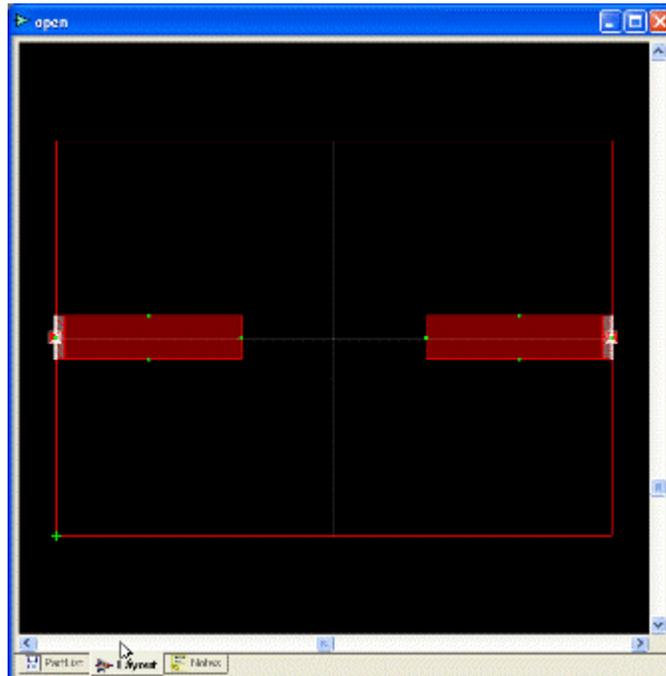
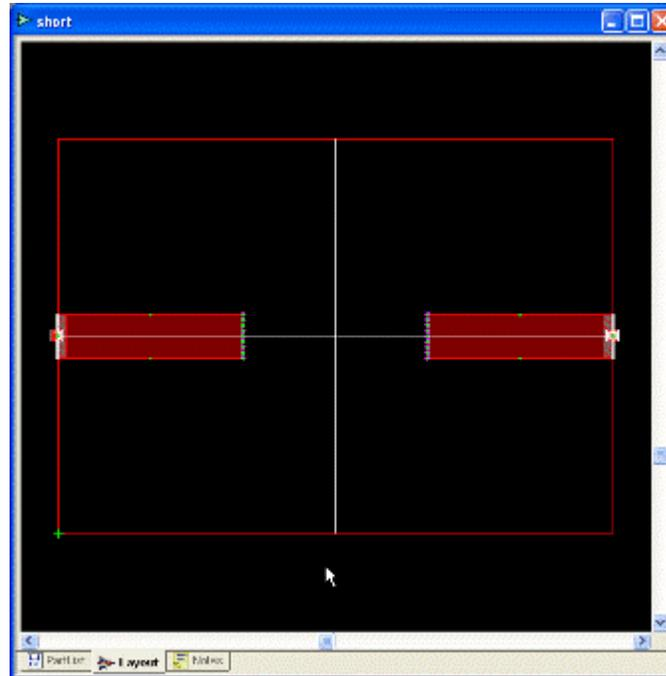

Figure 3
Figure 4
2. The open fixture is the PCB without the DUT mounted, leaving only the transmission lines connected to the input and output ports, as shown in Figure 3. This fixture contains both series and parallel parasitics.
3. The short fixture is the open fixture shown in Figure 3 with the ends of the transmission lines to the DUT input and output reference planes shorted by a row of via holes to ground (shown in Figure 4). The grounded via holes short out the parallel parasitics to leave only the series parasitics.